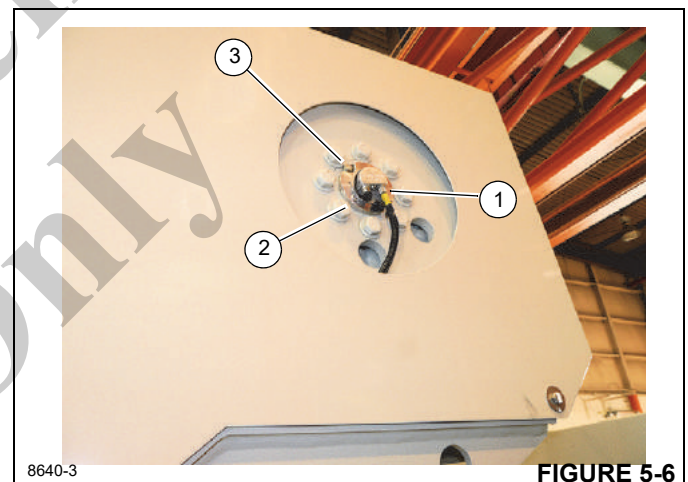

FIGURE 5-6
1. Loosen the collar on the connector and unplug the DRI cable (1, Figure 5-6).
2. Remove the two retaining screws (2).
5. Push the DRI into the drum so that the notch is lined up with the breather (3, Figure 5-6).
6. Secure the DRI with the retaining screws (2, Figure 5-6).